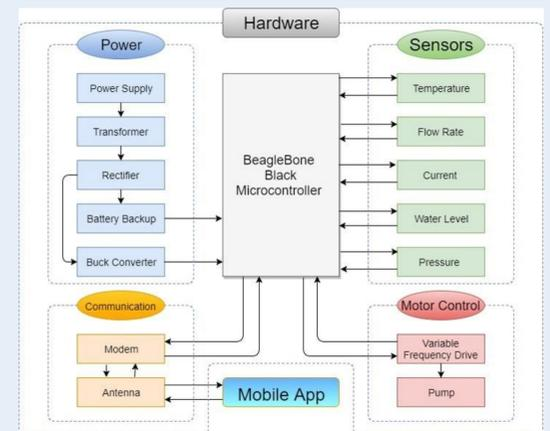

Figure 1 Our block diagram showing how each of the components are interconnected.
- **Block Diagram:** Created a block diagram to as shown in figure 1